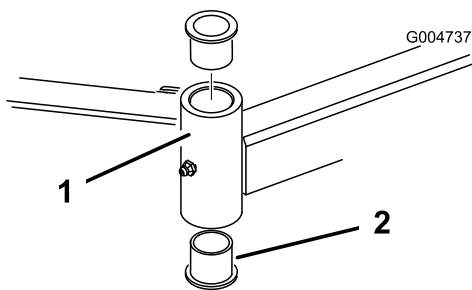

Figure 124
4. Insert a pin punch into the top or bottom of the mounting tube and drive the bushing out of the tube (Figure 124).